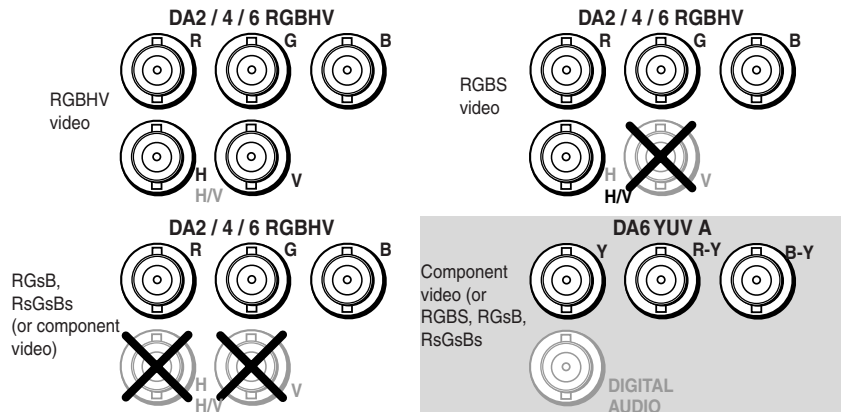

Figure 2-8 — Video input connections
- 1 **RGB and component video inputs** — Connect an RGB or component video source to these BNC connectors. Connect the cables as shown in figure 2-8.